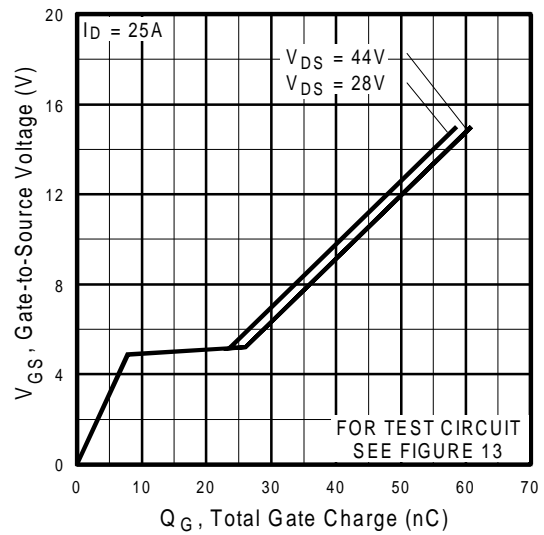

Fig 6. Typical Gate Charge Vs. Gate-to-Source Voltage
| Q _{gd} | Gate-to-Drain ("Miller") Charge | — | — | 27 | | V _{GS} = 10V, See Fig. 6 and 13 ④⑦ |